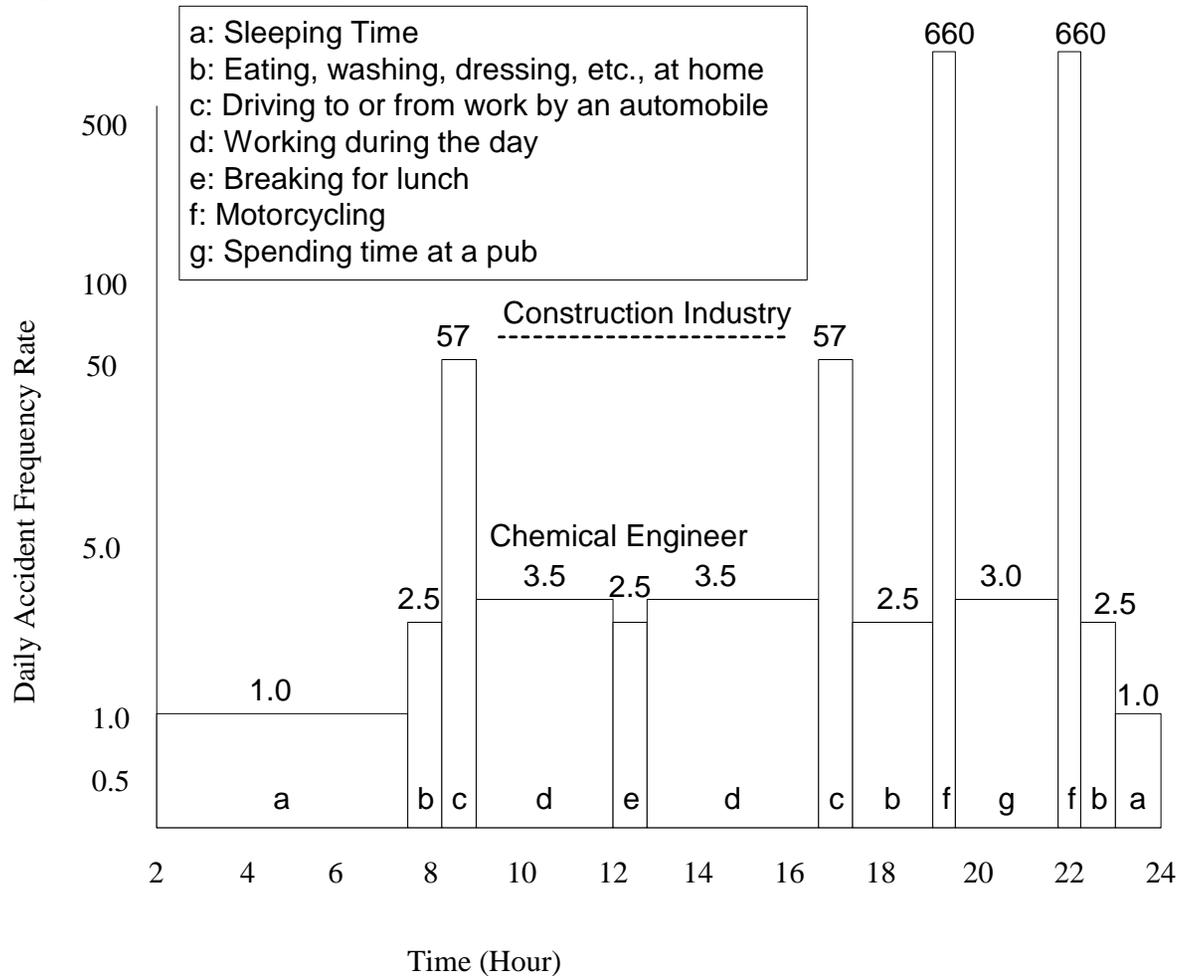

Figure 1. Daily Death Risk Exposure for a Working Healthy Adult
- ▶ Figure 1 (next slide) illustrates risk exposure during a typical day that starts by waking up in the morning and getting ready